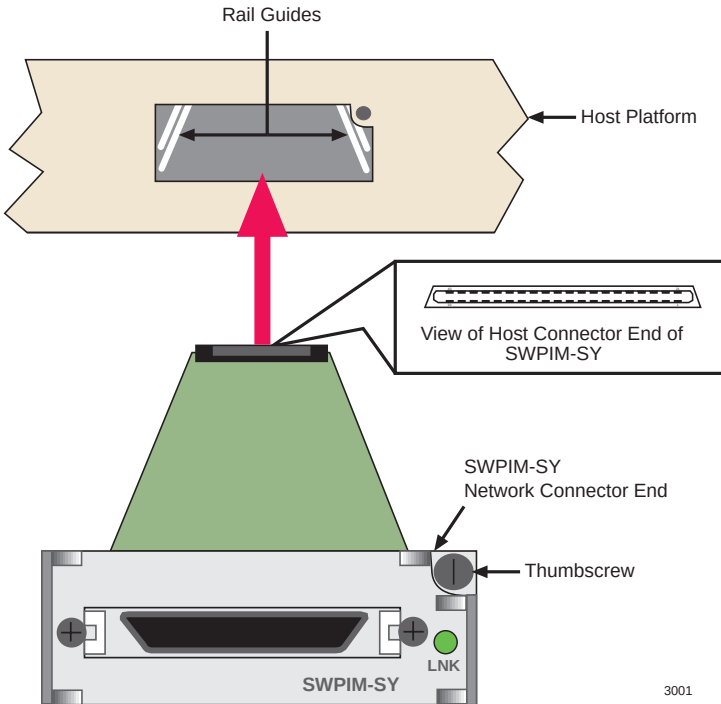

Figure 1-1 Installing the SWPIM-SY into the Host Platform
5. Hold the SWPIM-SY with the faceplate facing away (right side up) from the host platform. The 40-pin connector should be facing towards the empty slot, with the wide part of the connector oriented down. See Figure 1-1.
6. Locate the rail guides inside the slot in which the SWPIM-SY will be installed. See Figure 1-1.